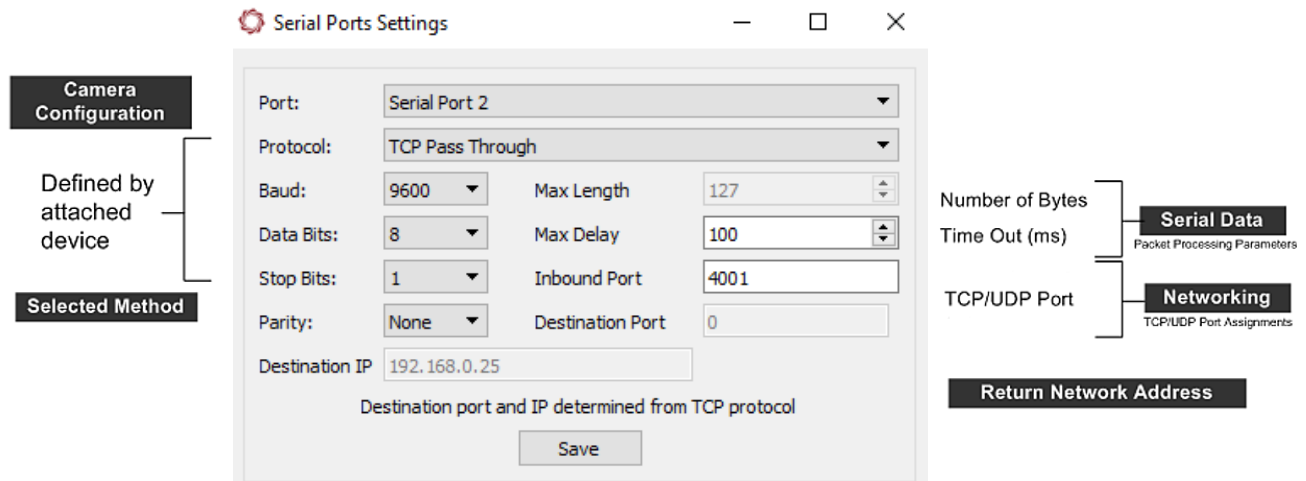

Figure 2: Serial Port Configuration Dialog Example in Panel Plus
- Figure 2: Serial Port Configuration Dialog Example in Panel Plus 3